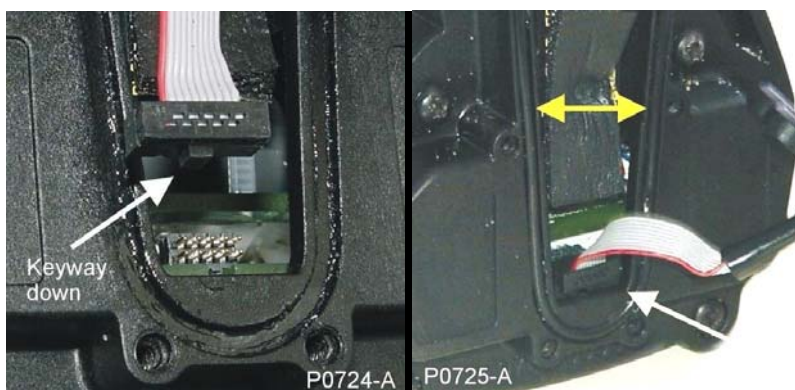

Figure 38: Correct Fitting of the Wiring Loom into the Electronics Pack
- Ensure that the keyway on the wiring loom plug (Figure 38) is towards the bottom of the electronics pack then plug the main wiring loom into socket on the printed circuit board inside the electronics pack.